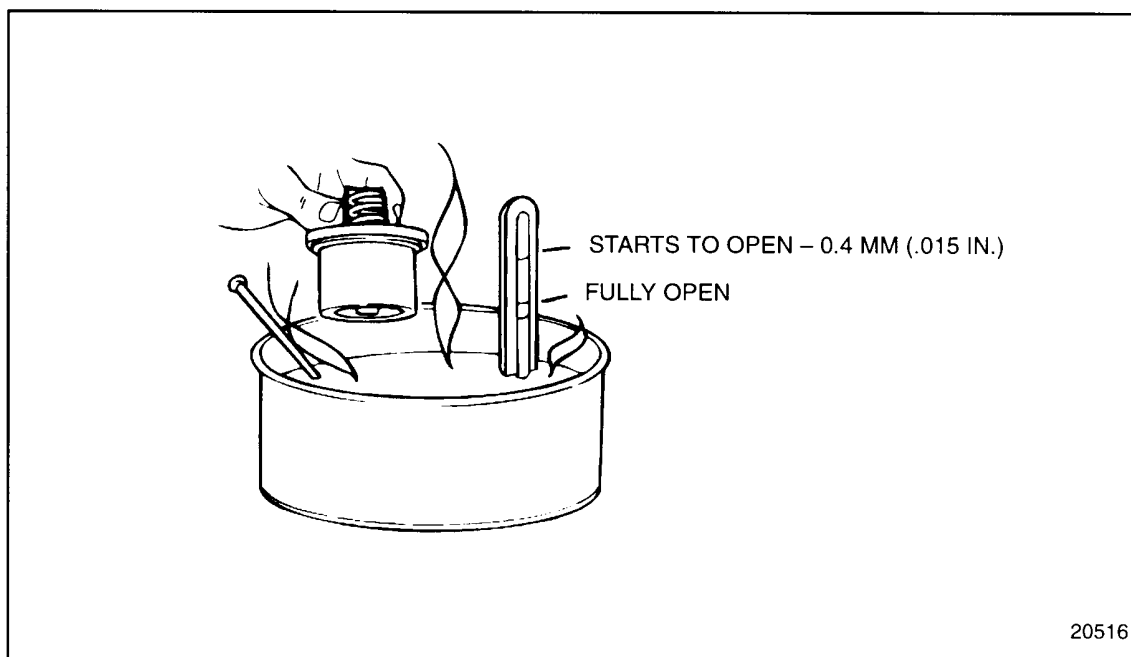

Figure 4-35 Checking Thermostat Operation
1. Immerse the thermostat in a metal container of water. See Figure 4-35.